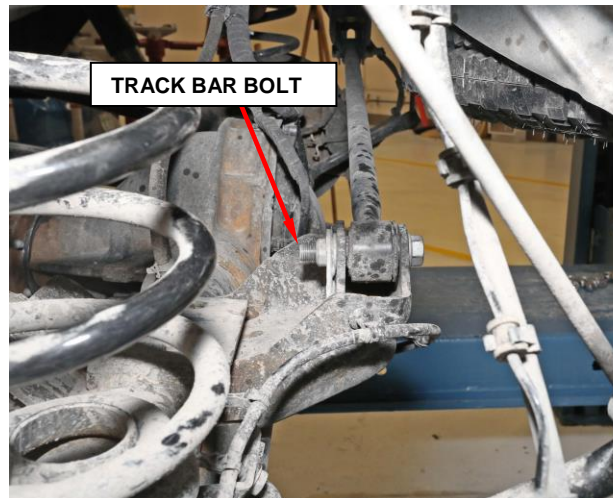

Figure 13 – Track Bar Bolt
4. Remove the bolt from the axle end of the track bar and DISCARD (Figure 13).
6. Align the track bar and install the bolt and nut but do not tighten at this time (Figure 13).